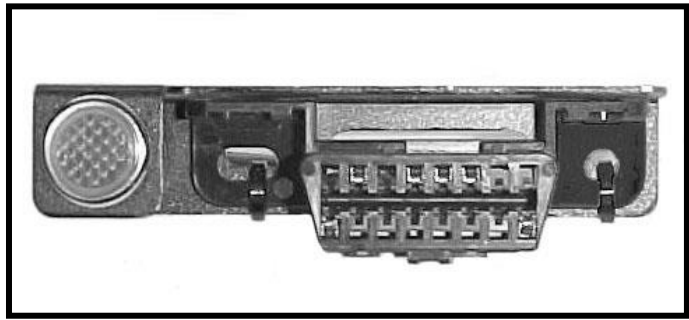

Figure 4 Data Link Connector
- The light should illuminate when the ignition is in the “On/Run” position and during engine cranking. If the light is on, while the engine is running, the ECM has thrown a code which may or may not affect drivability. **See Figure 4**